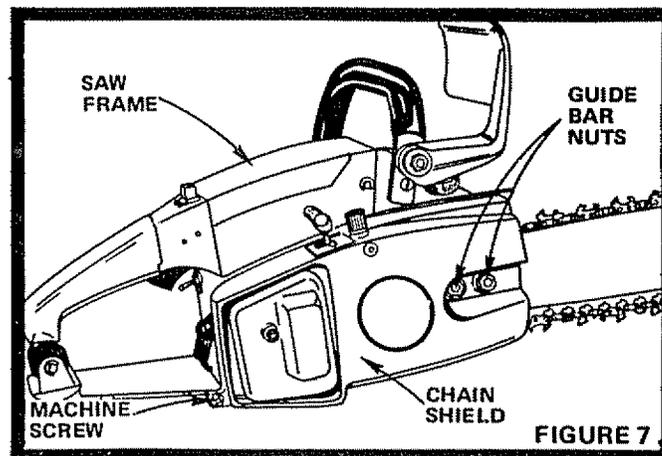

FIGURE 7
10. Set Saw upright (Fig. 7). Assemble Chain Shield to Saw Frame with Guide Bar Nuts. Assemble Machine Screw in rear corner of Chain Shield. NOTE: Tighten Machine Screw securely. Tighten Guide Bar Nuts FINGER TIGHT ONLY.